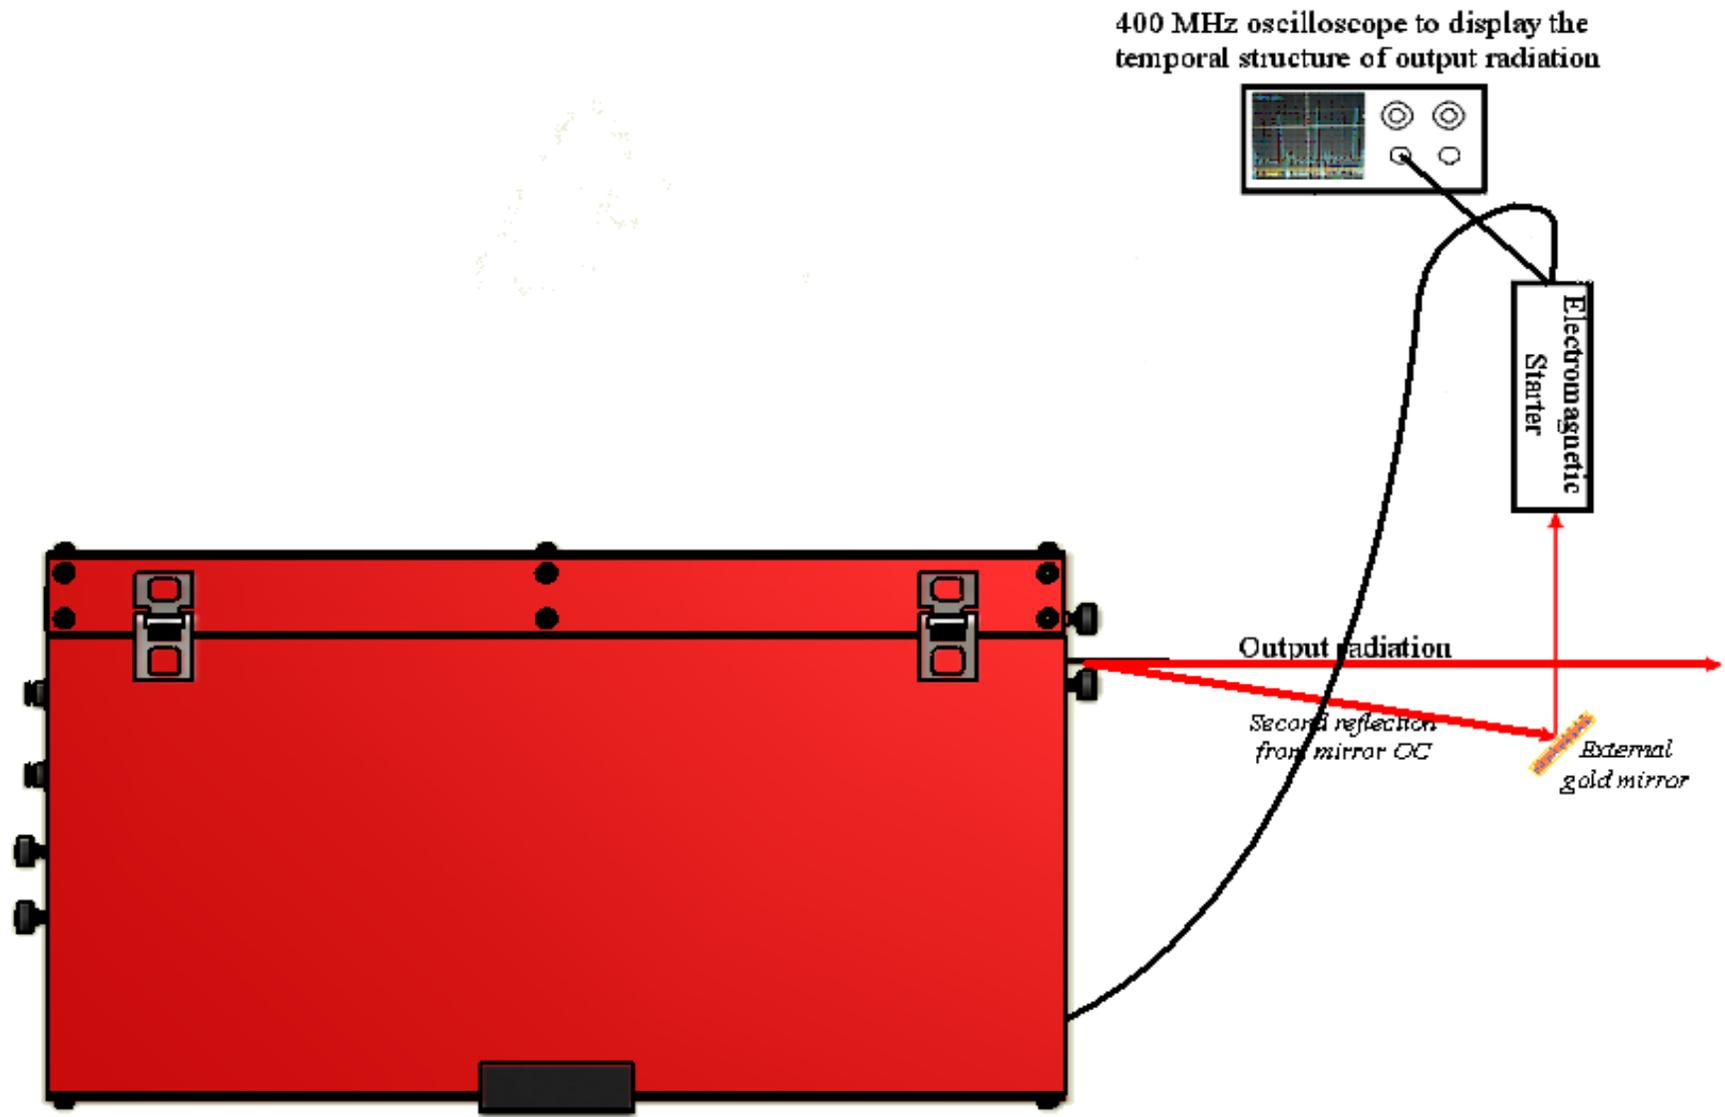

Fig. 23
1. Place and fix your LS-6.0 on the optical table (*Fig. 23*).